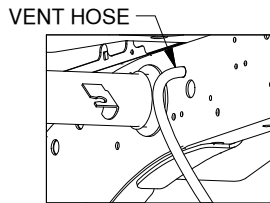

Figure A4
- 9. Temporarily remove vent hose.** Remove the vent hose that is installed into a hole on the inside of the passenger side frame rail just behind the rear axle, see Figure A4. This hose will be replaced at the end of the install.